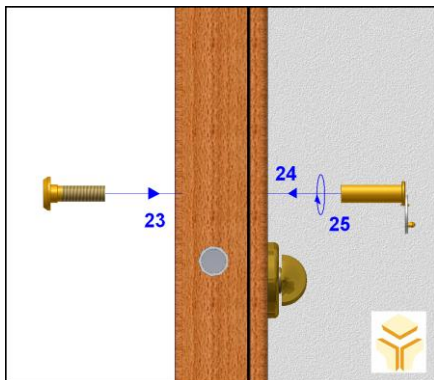

Fig. 3.7.1 – E1 Fixing peephole (Detail)
Make a hole with Ø 16 mm in the middle of the panels at the height of 1450mm. Assemble the two half-parts of the peephole (23)(24), and screw them one to the other (25) (fig. 3.7.1).